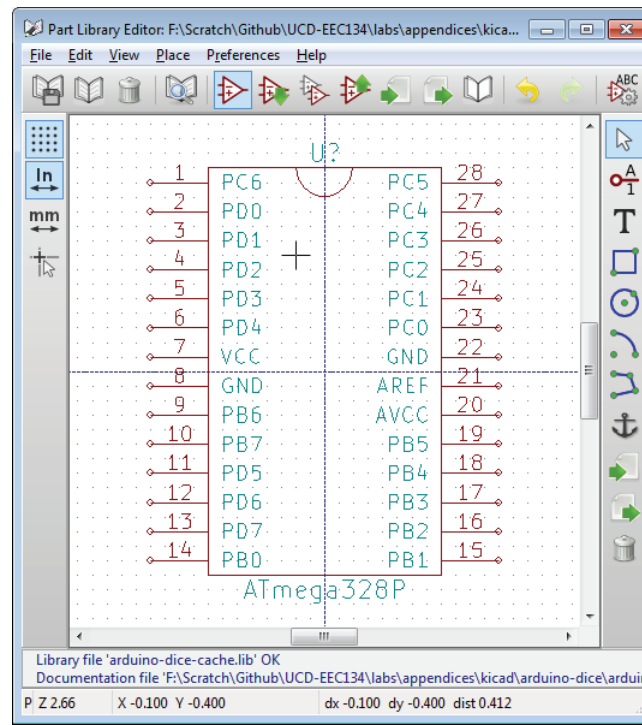

Figure 12: Completed schematic symbol for the ATmega328P microcontroller.
9. Now move the “Reference” string above the rectangle (only for aesthetic reasons) and the “Value” string below the rectangle. You can also add a half circle (arc) to the top of the rectangle to indicate the orientation of the component. The completed component looks that in Fig. 12.